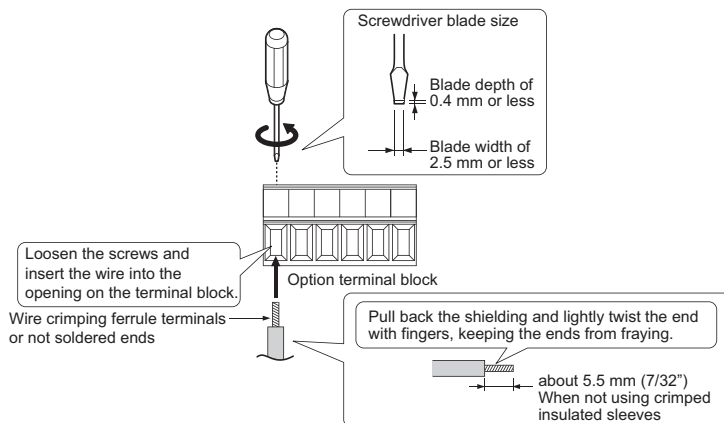

Figure 17 Connect Cable Wiring
5. Wire the motor PG encoder to the terminal block on the option according to **Figure 17**. Refer to **Figure 21** for the PG-B3 Option and PG Encoder connection diagram. Refer to **Table 9** for a detailed description of the option terminal functions.